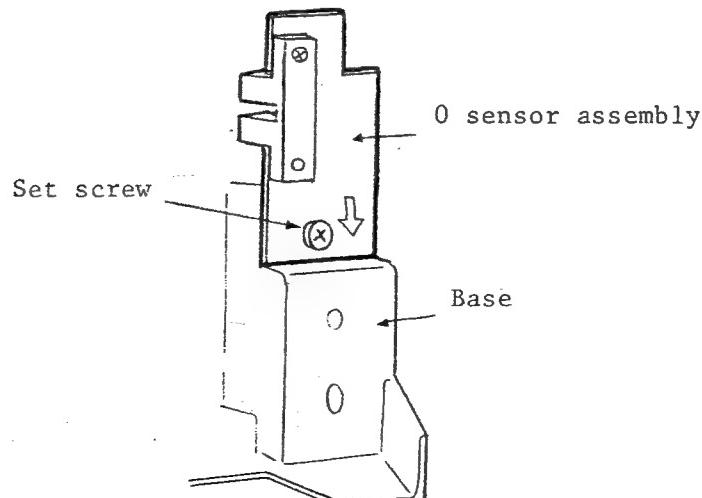

Fig. 4.10 O Sensor Assembly
(1) Tools and measuring instruments to be used:
(2) Disassembling
(3) Assembling
- (a) Attach the O sensor assembly. Press the plate in the arrowed direction (Fig. 4.10) and secure it temporarily.